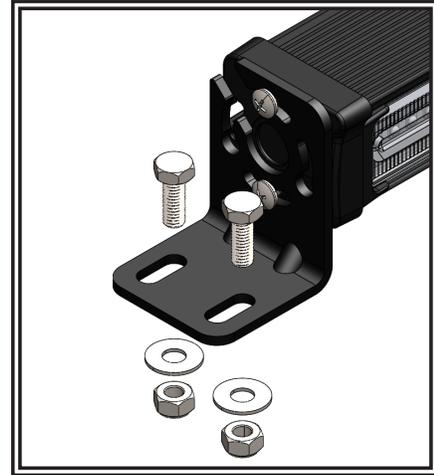

Figure 1
1. Loosely assemble a mounting bracket to each end of the unit as shown in FIGURE 1 using the included hardware.